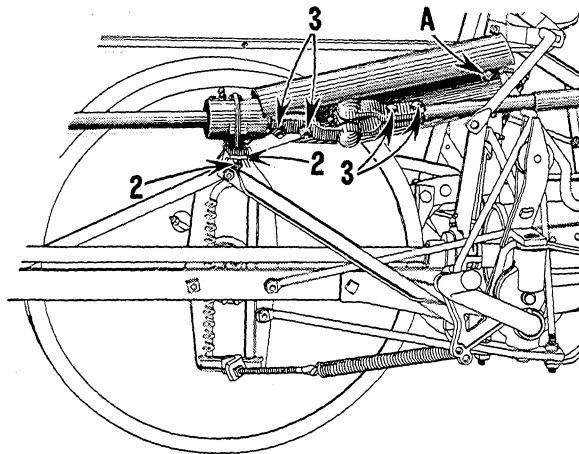

Figure 73
2. (Figure 73) Bolt front bearing box to main wheel sector and at the same time attach front power shaft shield. Attach front of shield at "A," Figure 73.
3. (Figures 73 and 75) Bolt rear half of universal joint to power shaft front and, at the same time, bolt telescoping square shaft to front half of universal.